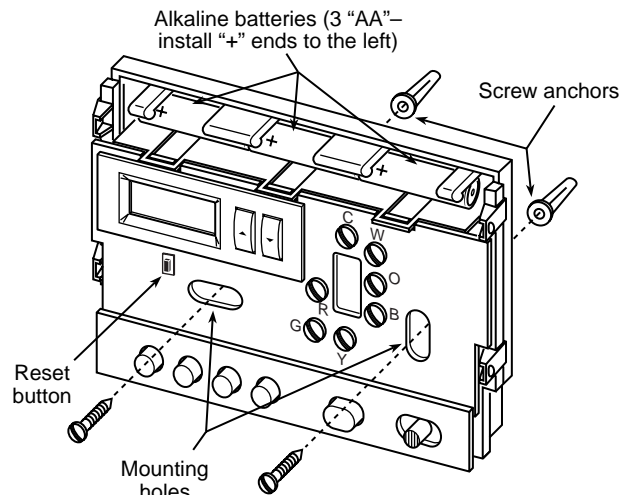

Figure 2. Thermostat base
5. Fasten the base loosely to the wall, as shown in fig. 2, using two mounting screws. Place a level against the bottom of the base, adjust until level, and then tighten the screws. (Leveling is for appearance only and will not affect thermostat operation.) If you are using existing mounting holes, or if the holes drilled are too large and do not allow you to tighten the base snugly, use plastic screw anchors to secure the base.